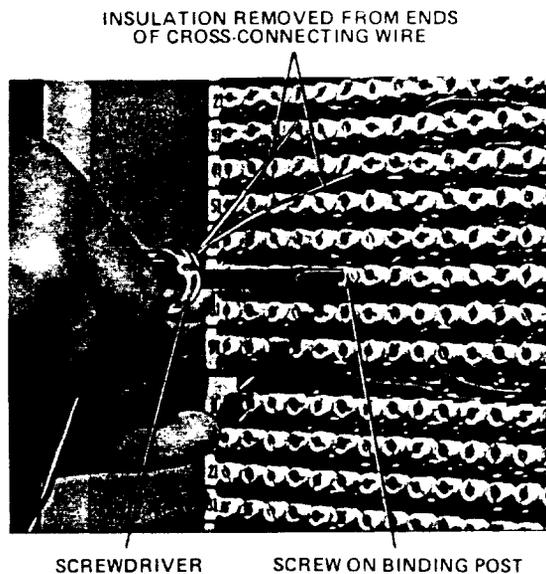

Figure 13. Terminating Cross-Connecting Wire on Distribution Field
- 4.02** Terminate the cross-connecting wire on the distribution field as follows (Figure 13):